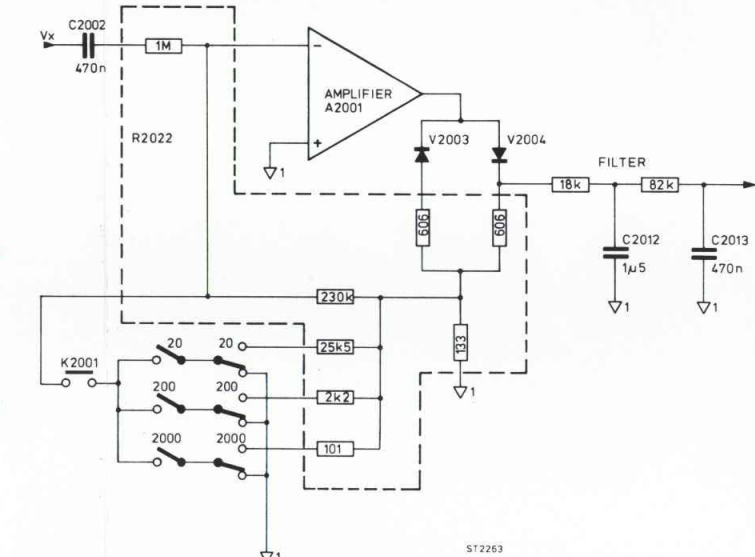

Fig. 17. AC-voltage measurements
7.2.2. A.C. Voltage measurements (Fig. 17)